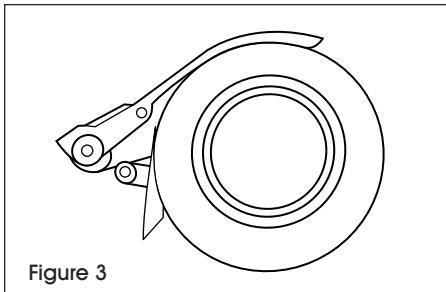

Figure 3
3. Load one roll of tape onto dispenser. (See Figure 3)